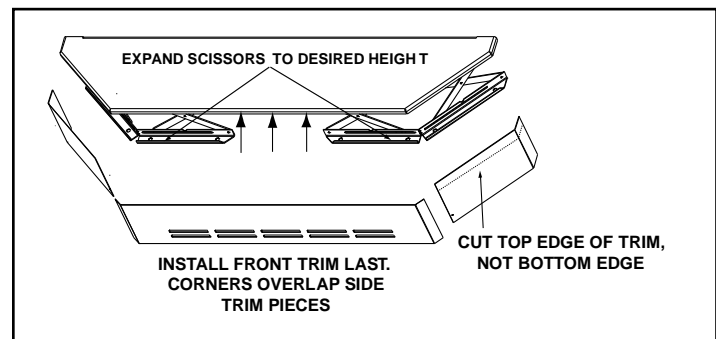

Figure 21.2
2. Expand scissors to desired height. Tighten screws to hold in place using Phillips head screw driver. **Figure 21.2.**